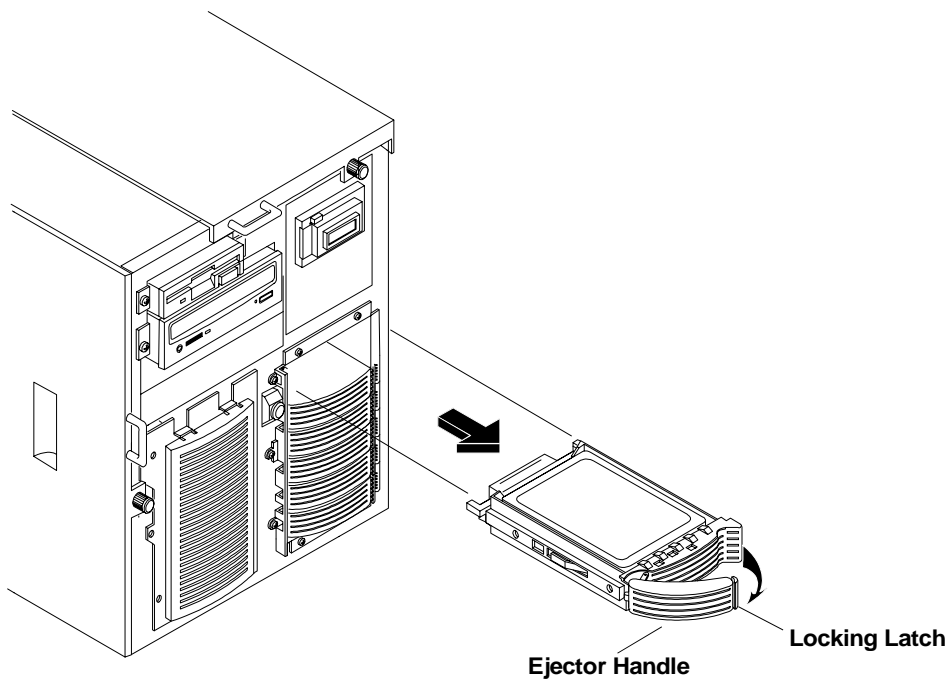

Figure 2-3. Remove Hard Disk Drives From the NetServer
1. Refer to Figure 2-3. To unlock the drive, push the locking latch in and then pull the ejector handle toward you.